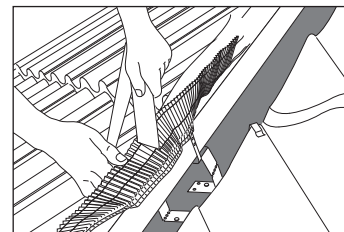

Fig. 8 – Remove backing tape
- 7 Remove backing tape covering both mastic strips from underside of the roll (Fig. 8). Press adhesive strips on both sides of hip firmly onto tiles below to ensure a continuous seal along length of both sides of hip.